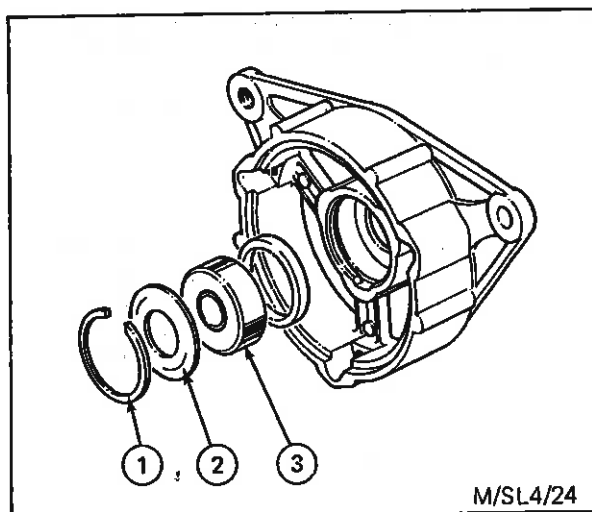

Fig. 36 - Drive End Bearing Renewal - 17 ACR'M' and A115 Alternators
After removing the bearing retaining circlip (1) and plate (2), the drive end bearing (3) can either be pressed or carefully tapped from the bracket with a suitably sized mandrel inserted in the outer face aperture of the bearing housing - see Fig. 36